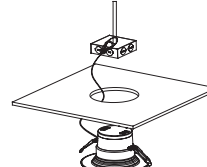

Fig. 7
- Step 2:** Attach the carabiner safety clip to the existing fixture housing (Fig. 7).